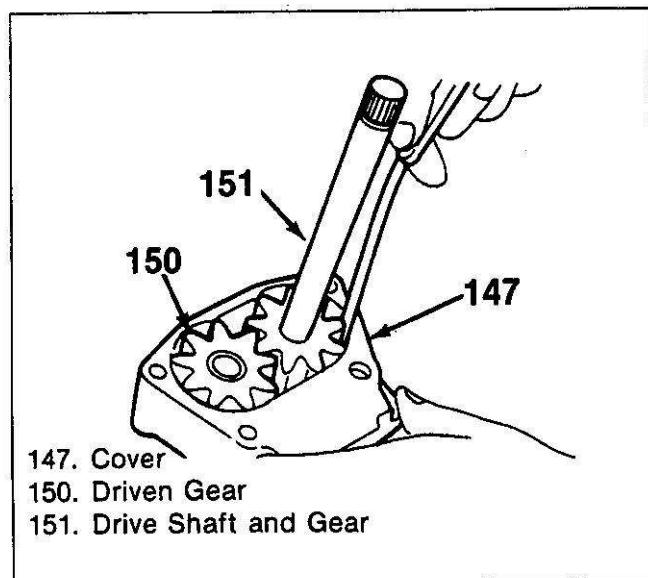

Figure 76. Checking Oil Pump Gear-to-Cover Clearance
Measure (Figures 76, 77 and 78)
- Gear teeth to cover inner wall clearance as shown in figure 76. Use a feeler gage, as shown. The clearance must not exceed 0.18 mm (0.007 in). If excessive, replace the pump assembly.